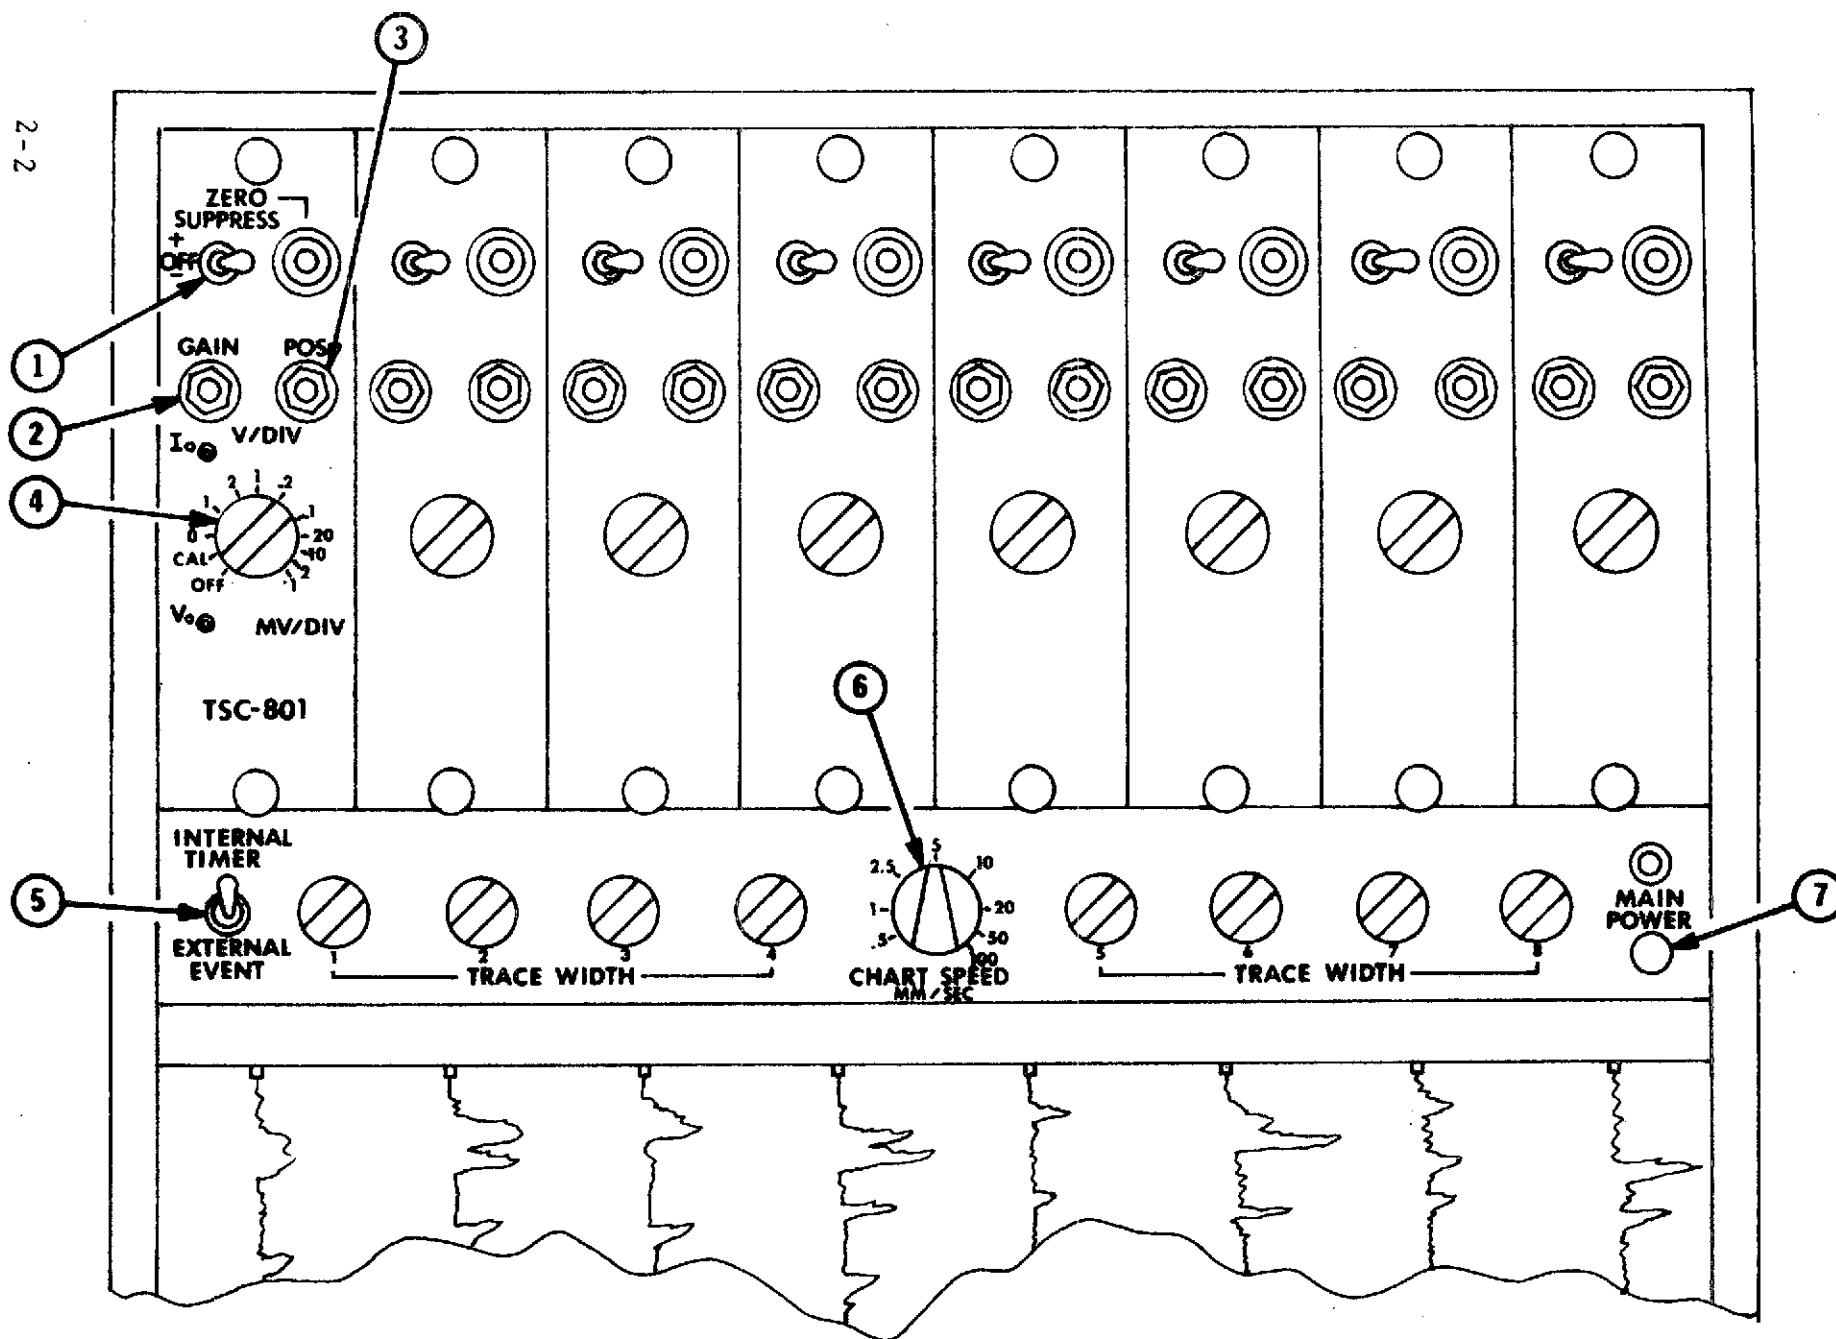

Figure 2-1. Techni-Rite 8 Channel Recorder
Figures 2-1 through 2-16 show all front panel controls and indicators in the NASA-6 Atmospheric Measuring Station. Figure 2-17 is a block diagram which shows the relationship of the various system components. For additional information on individual equipment items, refer to the applicable manufacturer's manual, laboratory calibration procedure or PC-1 drawing.
2.2 TECHNI-RITE 8 CHANNEL RECORDER (FIGURE 2-1)